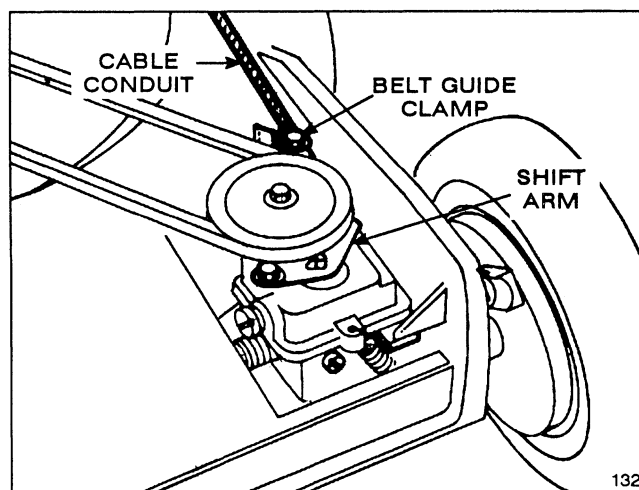

Figure 17
3. ADJUSTMENT (Fig. 17)—Loosen belt guide clamp until cable conduit slides. Move handle-mounted wheel drive control To DISENGAGE detent. Move shift arm toward clamp and hold in place. Pull cable conduit to remove slack and tighten belt guide clamp.